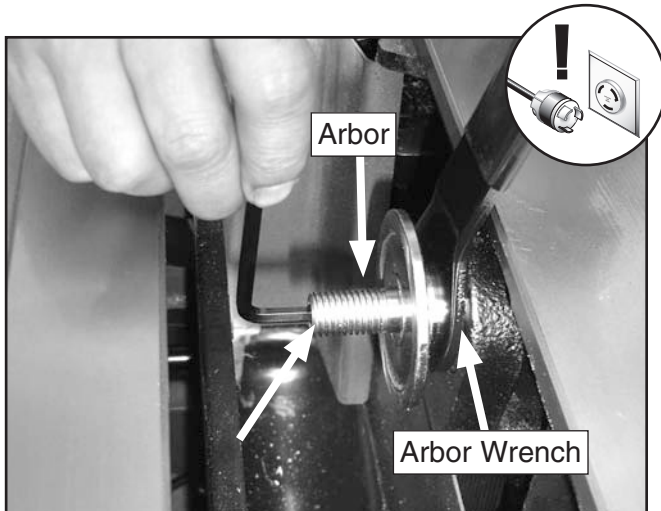

Figure 23. Removing arbor.
4. Hold the arbor shaft with the arbor wrench and, using a 5mm hex wrench, remove the cap screw from the end of the arbor, as shown in **Figure 23**.